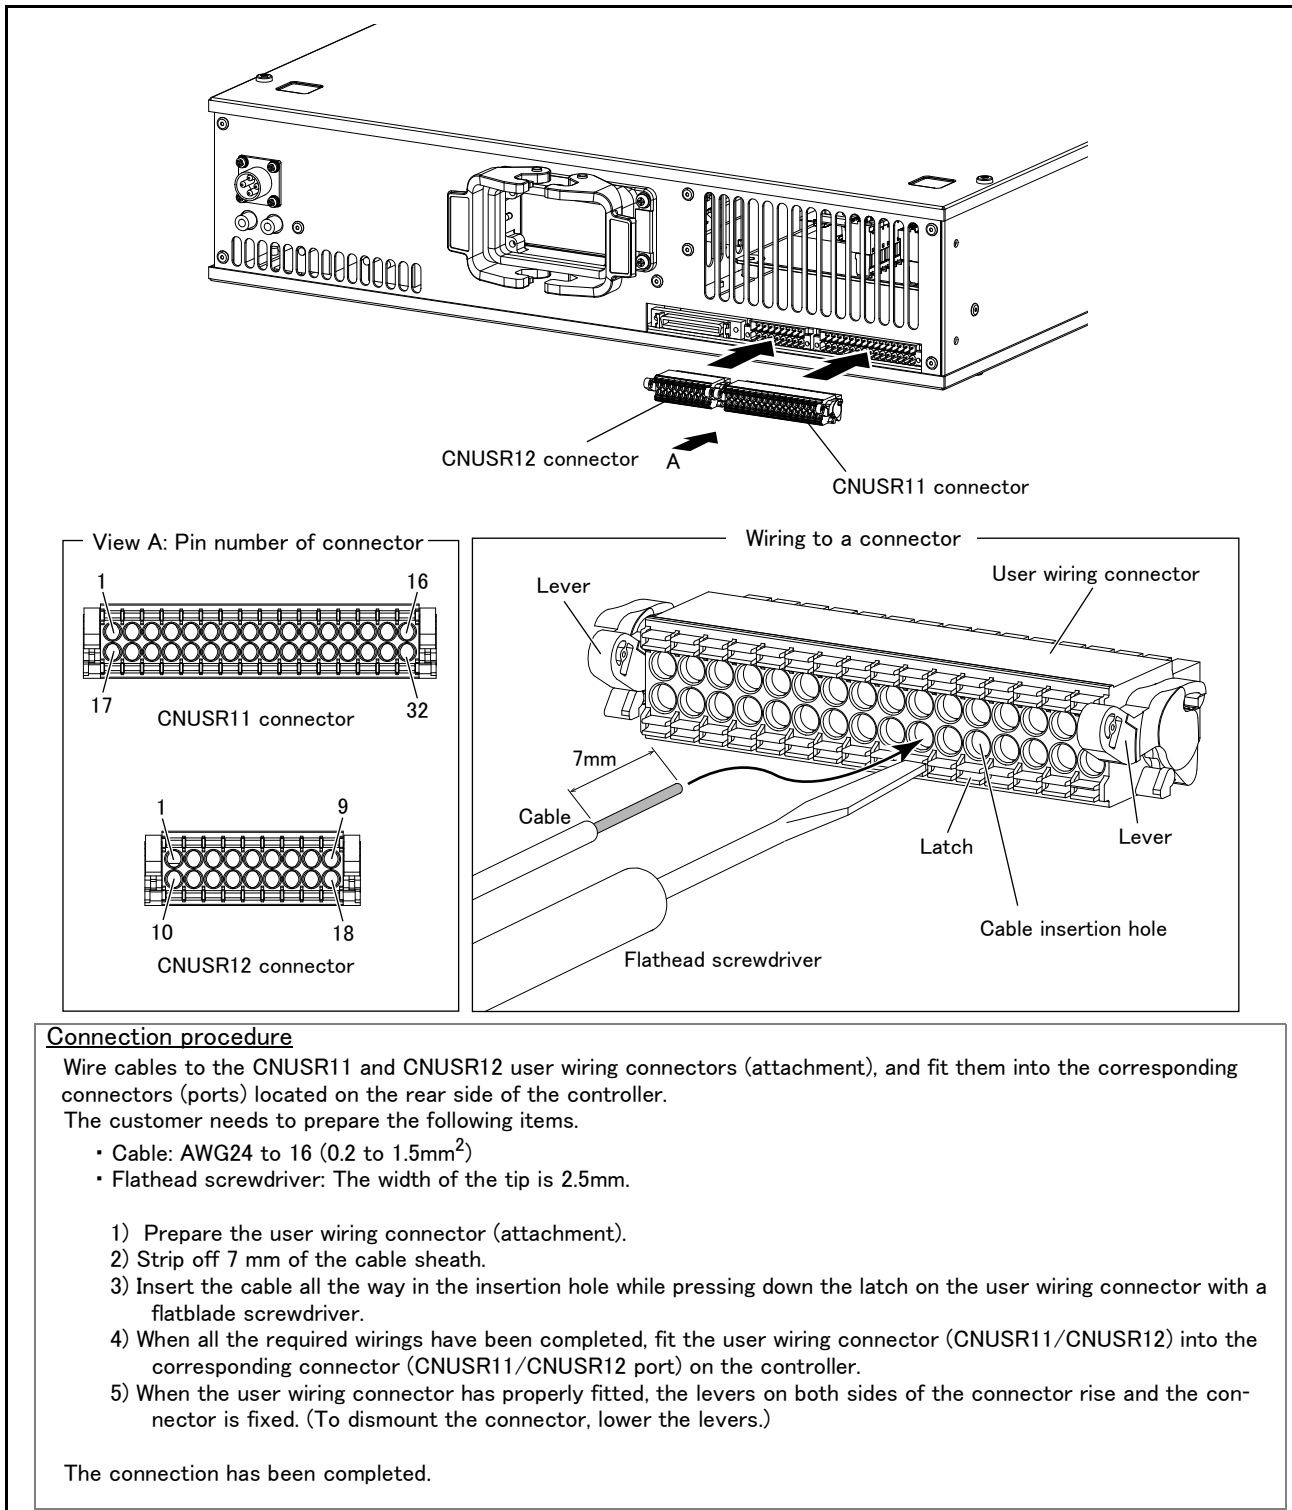

Fig.3-14 : Wiring method to the user wiring connector
* Refer to Page 134 "Fig. 3-14: Wiring method to the user wiring connector" for more details about how to wire a connector.